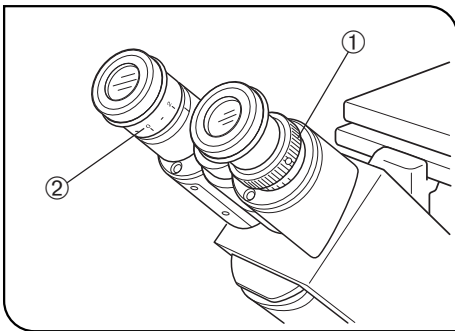

Fig. 15
2 Adjusting the Diopter (Figs. 15 & 16)
1. While looking through the right eyepiece, rotate the diopter adjustment ring ① on the right eyepiece sleeve until the peripheral area of the field of view is clearly visible. (Fig. 15)
3. Look through the left eyepiece and rotate only the diopter adjustment ring ② on the left eyepiece to bring the specimen into focus. (Fig. 15)
1. Looking through the left eyepiece with your left eye, rotate the top of the eyepiece ② until a clearly defined double crosslines can be seen in the field of view. (Figs. 15 & 16)
3. Looking through the right eyepiece with your right eye, rotate only the diopter adjustment ring ① to bring the specimen into focus.